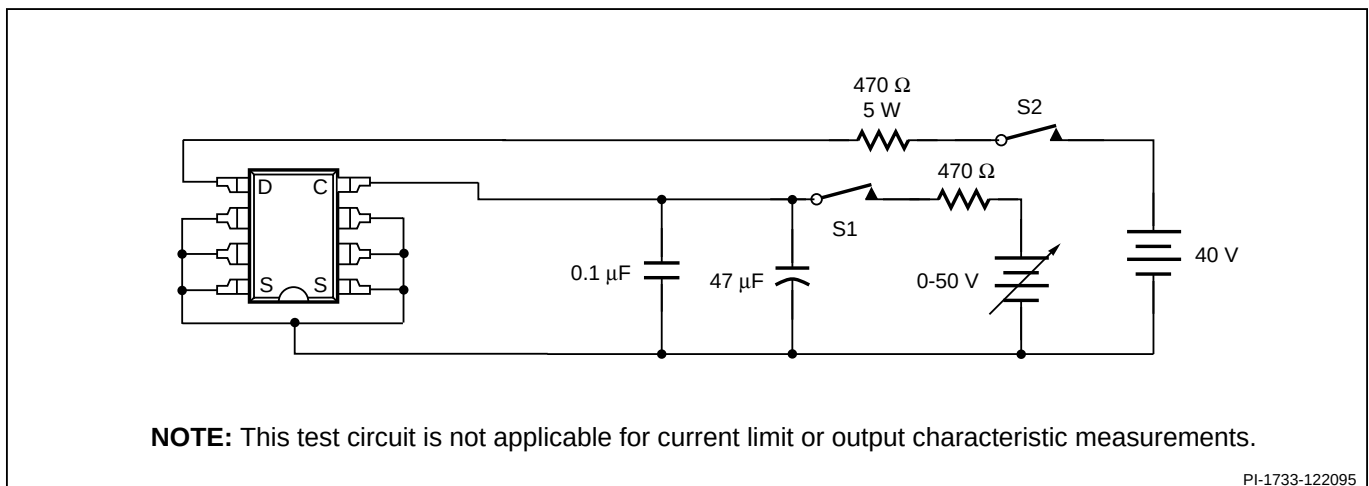

Figure 12. TOPSwitch General Test Circuit.
- B. The breakdown & leakage measurements can be accomplished by using the *TOPSwitch* auto-restart feature. The divide-by-8 counter in the auto-restart circuitry disables the output MOSFET from switching in 7 out of 8 cycles. To place the *TOPSwitch* in one of these cycles, the following procedure can be carried out using the modified circuit of Figure 12:
The following precautions should be followed when testing TOPSwitch by itself outside a power supply. The schematic shown in Figure 12 is suggested for laboratory testing of TOPSwitch.